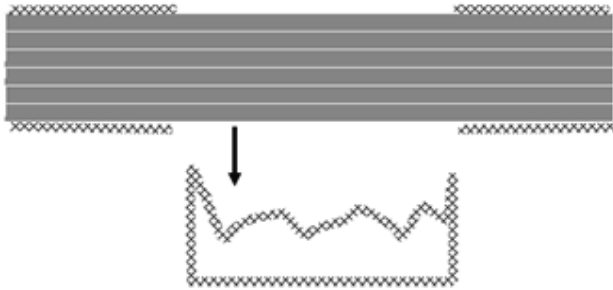

Figure 50. Remove Damaged Shielding
- b. Remove damaged section of EMI shielding (Figure 50).